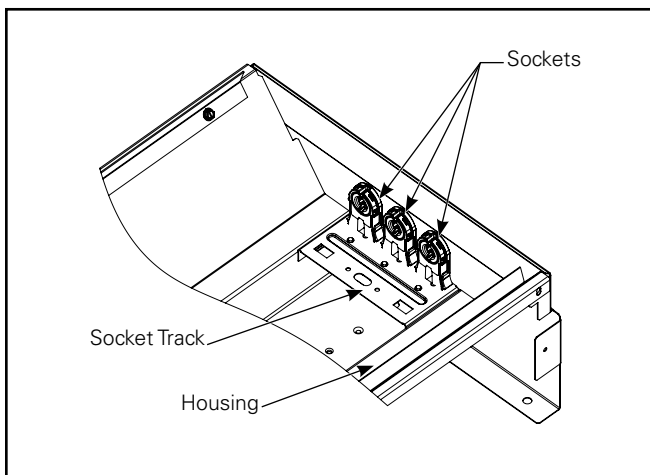

Figure 2.
2. Remove the sockets and socket tracks from fixture. (Figure 2.)